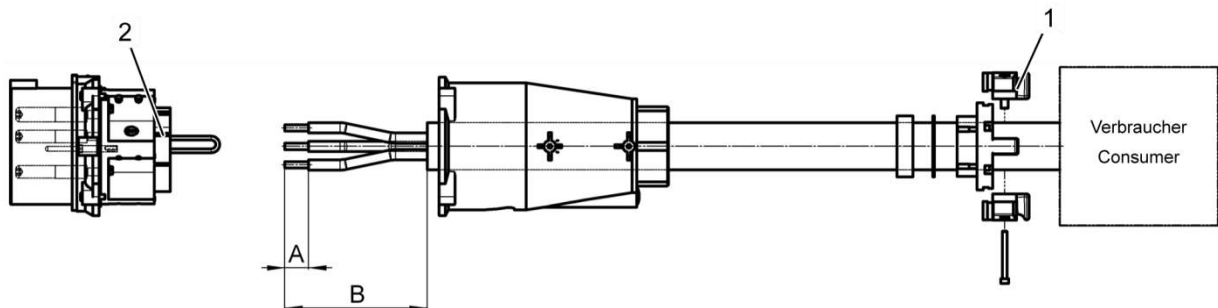
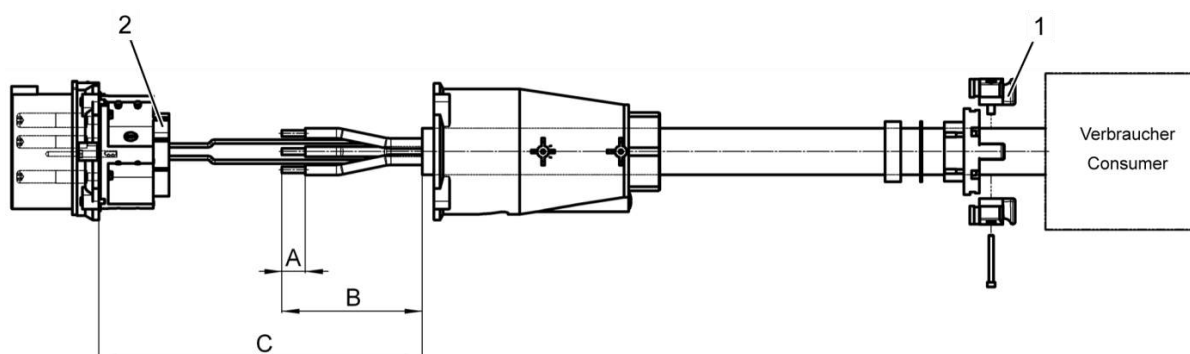
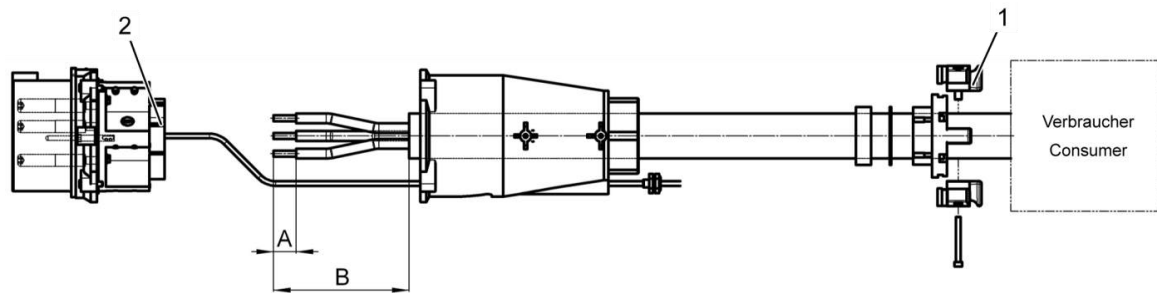

Fig.53: Schematic for cables without pilot contacts
Fig.54: Schematic for cables with integrated pilot contacts
Fig.55: Schematic for cables with separate pilot contacts
- Proceed as specified in Fig. 53 if no pilot contacts are present.
- Proceed as specified in Fig. 54 if pilot contacts have been integrated.
- Proceed as specified in Fig. 55 if the pilot contacts are separate.
1. Pull the cable gland (Fig. 53 /1, Fig. 53 /1 bzw. Fig. 53 /1) over the cable
Strip off the exterior insulation along length B (Fig. 53).
2. Strip the insulation off each individual line along length A (Fig. 53).
Strip off the exterior insulation along length B (Fig. 54).
- Strip the insulation off each individual line along length A (Fig. 54) Length C represents the length of the integrated pilot contact.
Strip off the exterior insulation along length B (Fig. 55).
2. Strip the insulation off each individual line along length A (Fig. 55).
3. Strip the insulation off the pilot contacts along length A (Fig. 55) abisolieren.
1. Screw the female contact (Fig. 53 /2, Fig. 54 /2 bzw. Fig. 55 /2) to the cable.